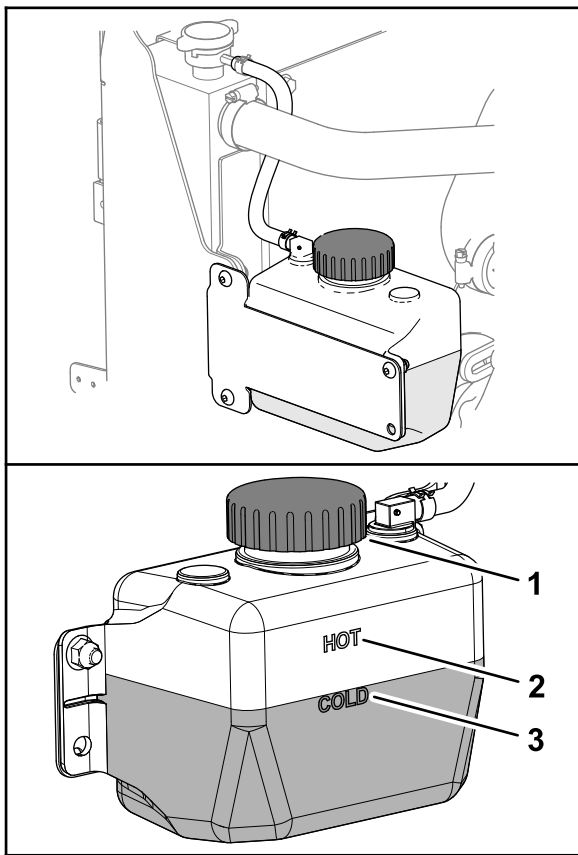

Figure 141
3. Check the level of coolant in the reservoir (Figure 141).